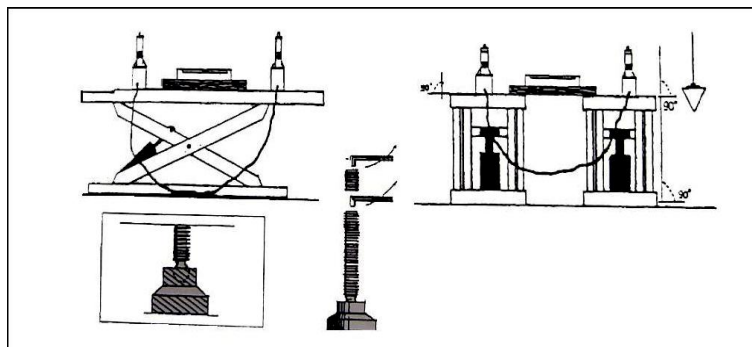

Fig 22
- Inspect that the surfaces of the left and right platforms are level laterally and longitudinally with a transparent leveling pipe or level gauge (Fig. 22).